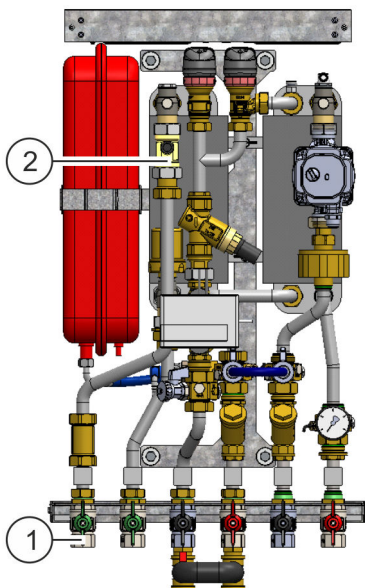

Fig. 43: Replacing the flow rate sensor
Close the main shut off valve (Fig. 43/1) for the supply line to the backflow preventer to ensure no more water can flow through the backflow preventer.
3. ➤ Release the bolted connection for the flow rate sensor (Fig. 43/2) using an adjustable spanner.